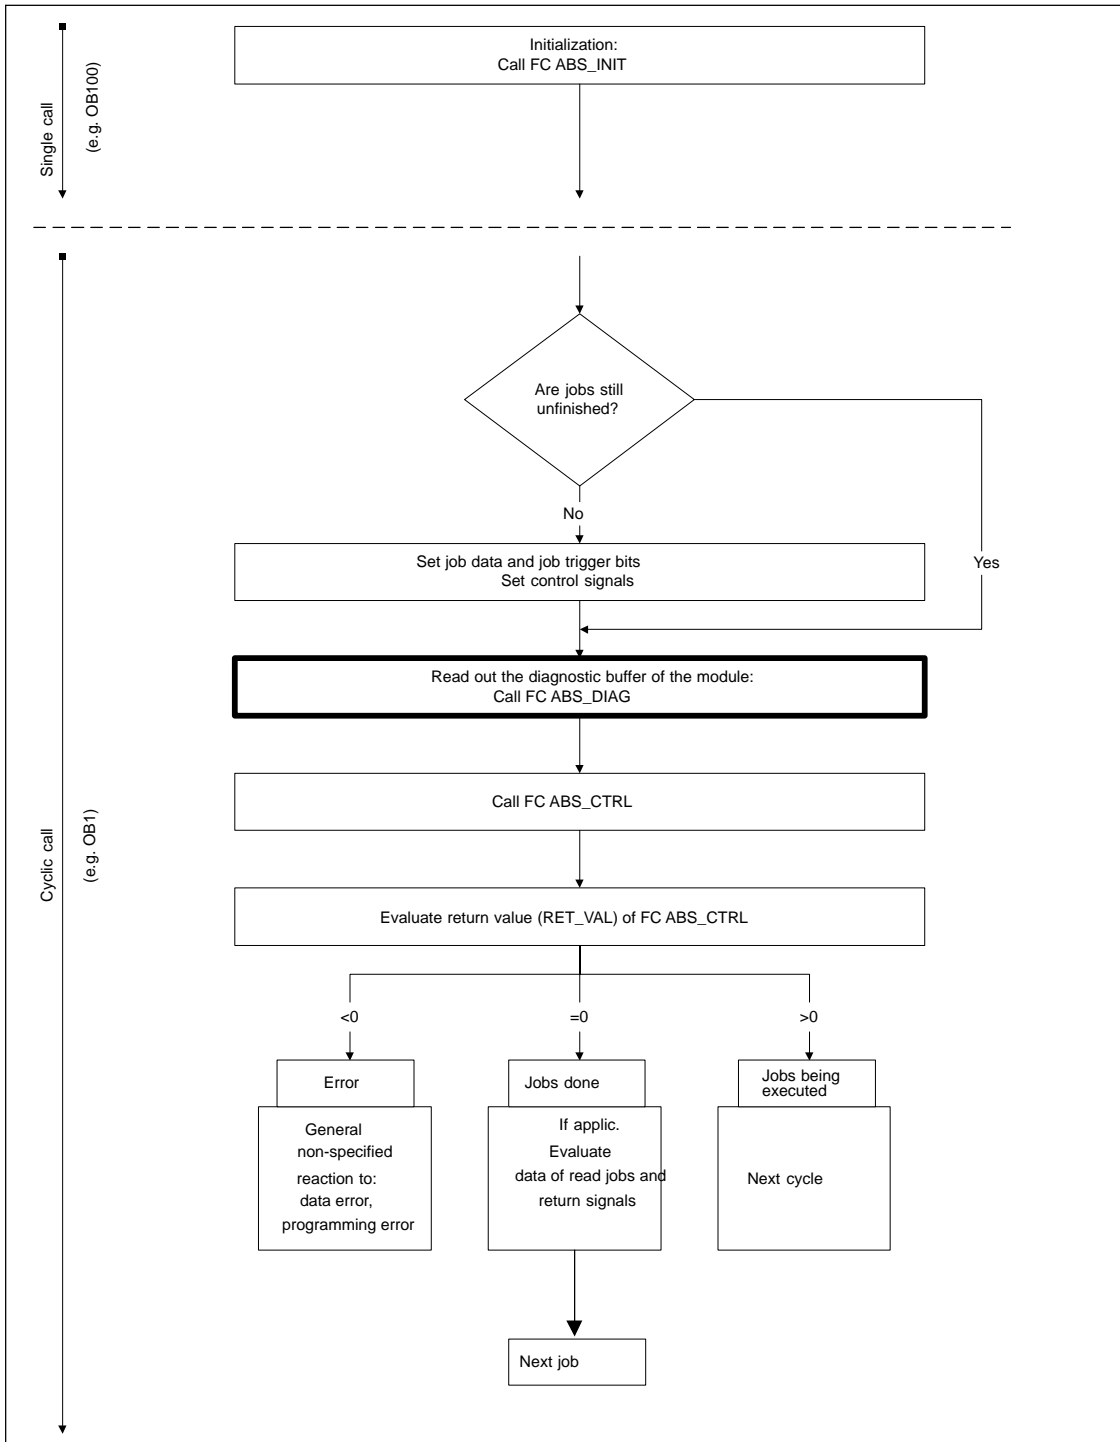

Figure 11-2 Program Structure with Diagnostic Display for an OP
- To display errors on an OP: Read out the diagnostic buffer of the module cyclically in your user program (see Figure 11-2). Evaluate the diagnostic DB on the OP. The meaning of the error class and error number is explained in the error list in Appendix C.5 (page C-15).
Figure 11-2 shows the structure of a user program as illustrated in Figure 6-2 with extra functions for reading out the diagnostic buffer for display on an OP. FC DIAG stores the diagnostic buffer in a DB that can be displayed by the OP.